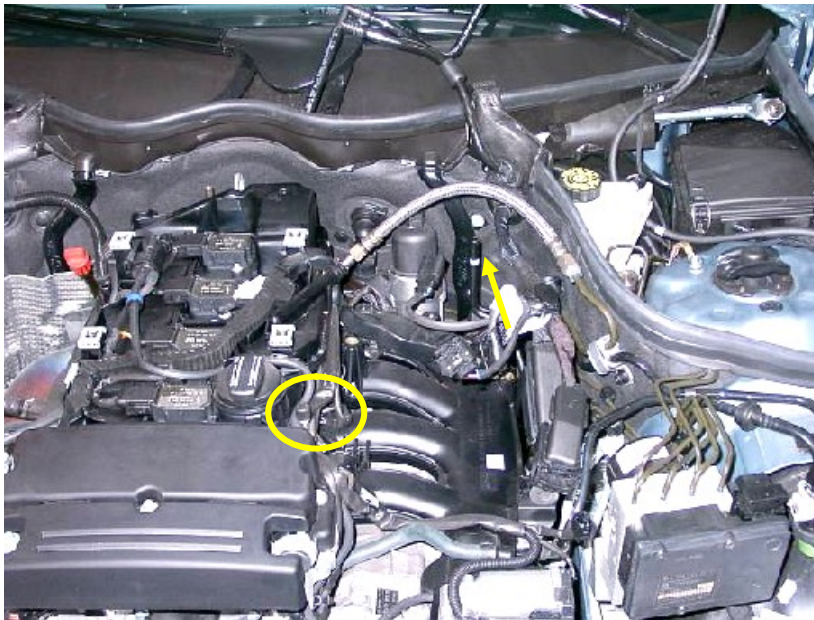

Fig 1
2. Attach one end of the vacuum line using the T-pcs. (Yellow circle, fig. 1) to the O.E. vacuum pressure hose, and route it along the other wires and hoses to the yellow arrow (fig 1).